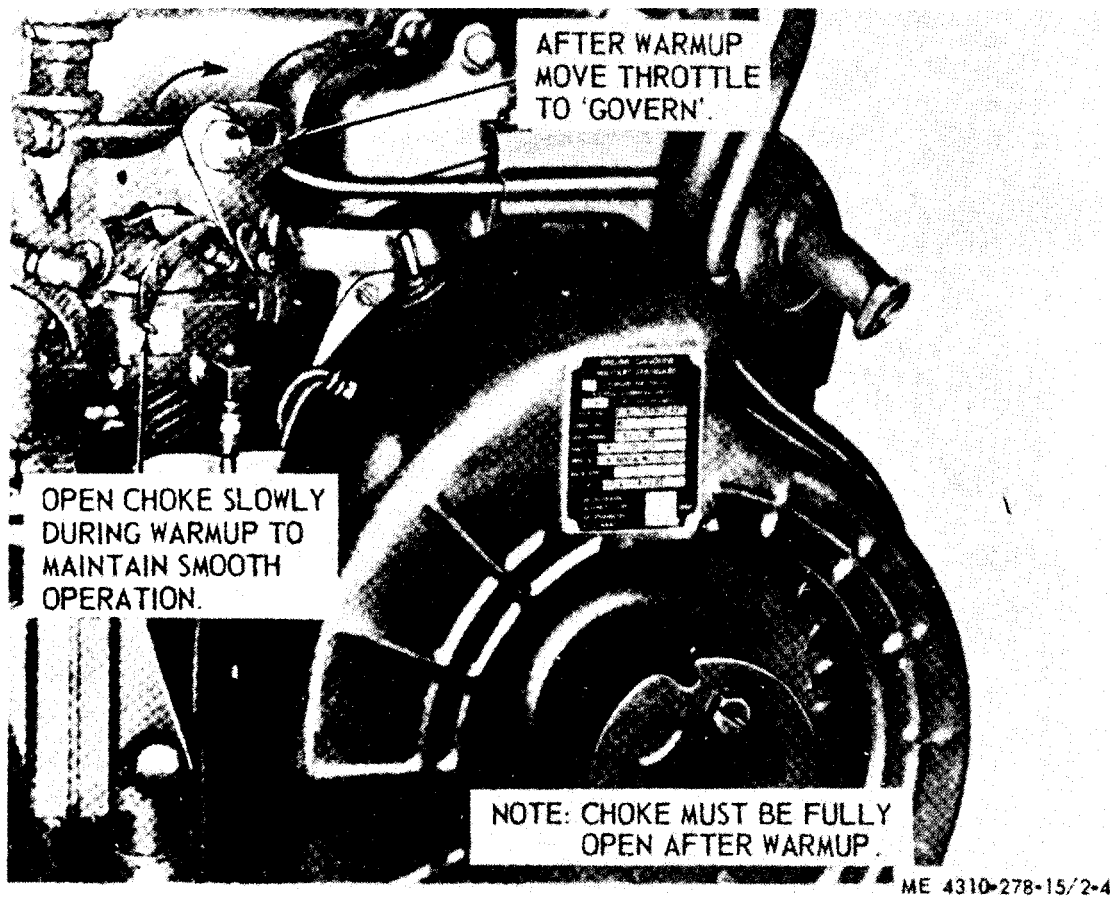

Figure 2-4. Operating the rotary compressor.
b. Refer to figure 2-4 to operate the rotary compressor.